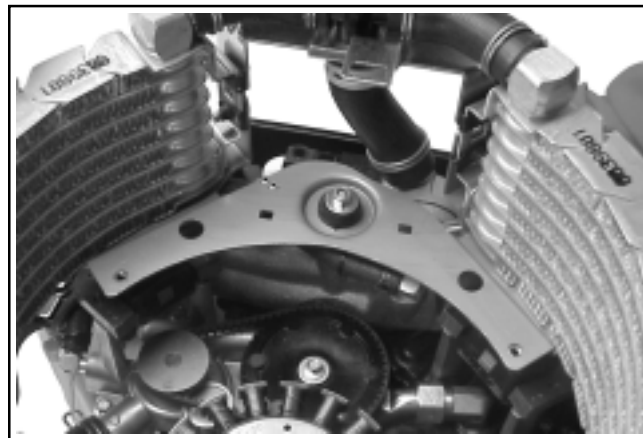

Figure 11-84. Ignition Modules "Back" as Far as Possible.
3. Position the modules on top of the mounting bosses. Slide the ignition modules as far away from the crankshaft as possible. See Figure 11-84. Do not attempt to attach the modules onto the mounting bosses at this time.